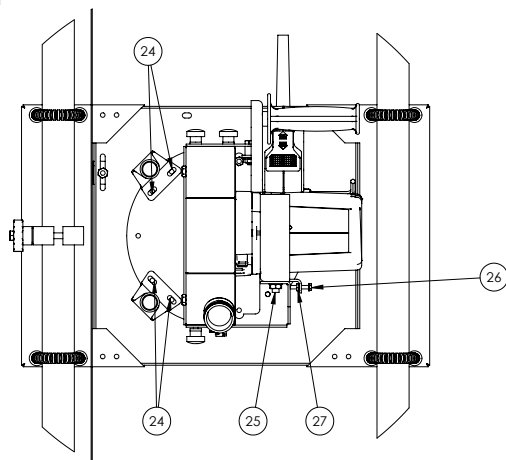

Figure 42: Adjusting Blade Perpendicularity (C & H Series shown)
- a. Loosen (but do not remove) the four hex-head nuts holding the indexing pin assembly (Fig. 42, #24).
1. If the tool does not cut at 90° to the surface (face) of the work piece, loosen the two motor mount nuts (Fig. 42, #25).